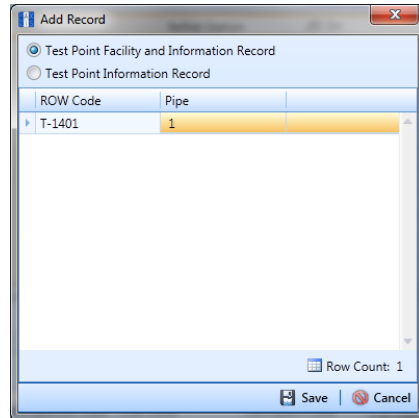

Figure 7-9. Add Record
- b Select the pipeline in the dialog box that you want to add a new facility and information record. For example, pipeline *T-1401* is selected in the next figure (Figure 7-9).